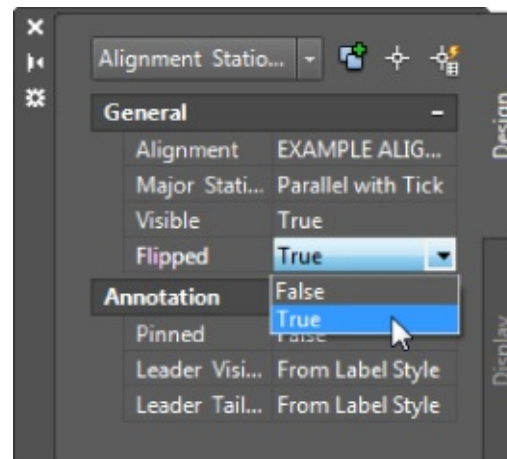

Figure 18.36 Modifying a single label's properties through the base AutoCAD properties palette
10. Change the Label Style value to Parallel With Tick, and change the Flipped value to True, as shown in Figure 18.36.